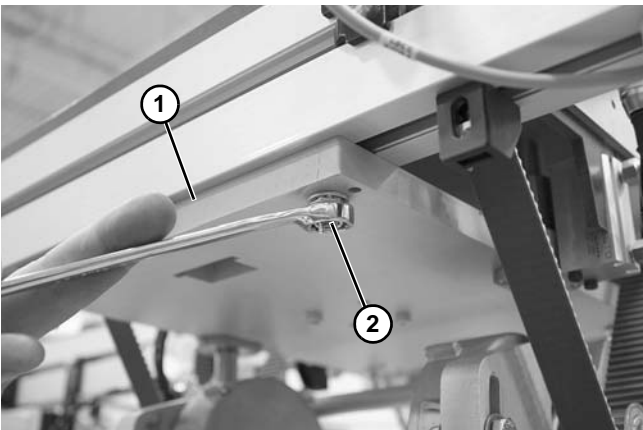

Figure 29
1. Raise lift and transfer station (**Figure 29, item 1**) into position from under the conveyor, lining up T-nuts with conveyor channel.
2. Tighten bolts (**Figure 29, item 2**) to secure lift and transfer station to conveyor.